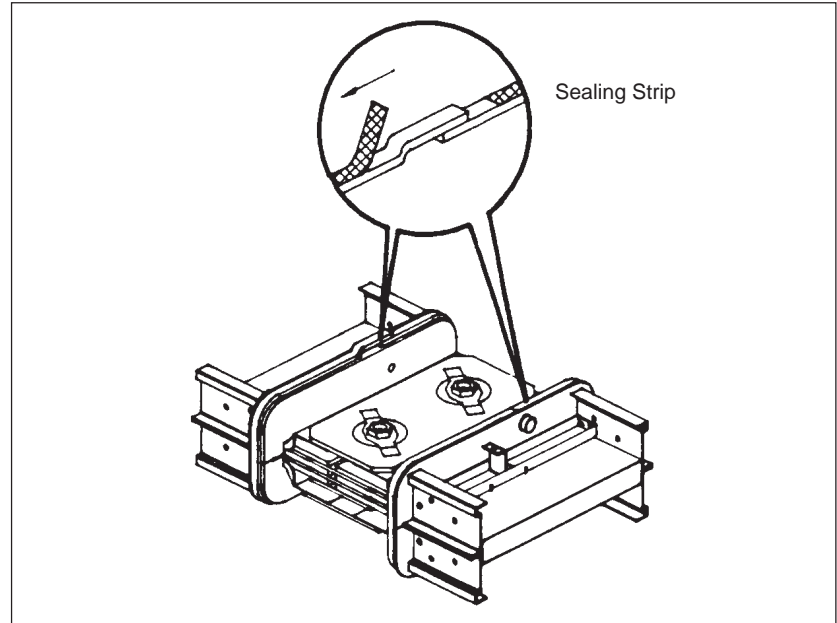

Figure 4
4. Prepare the joint for attaching covers (figure 4).